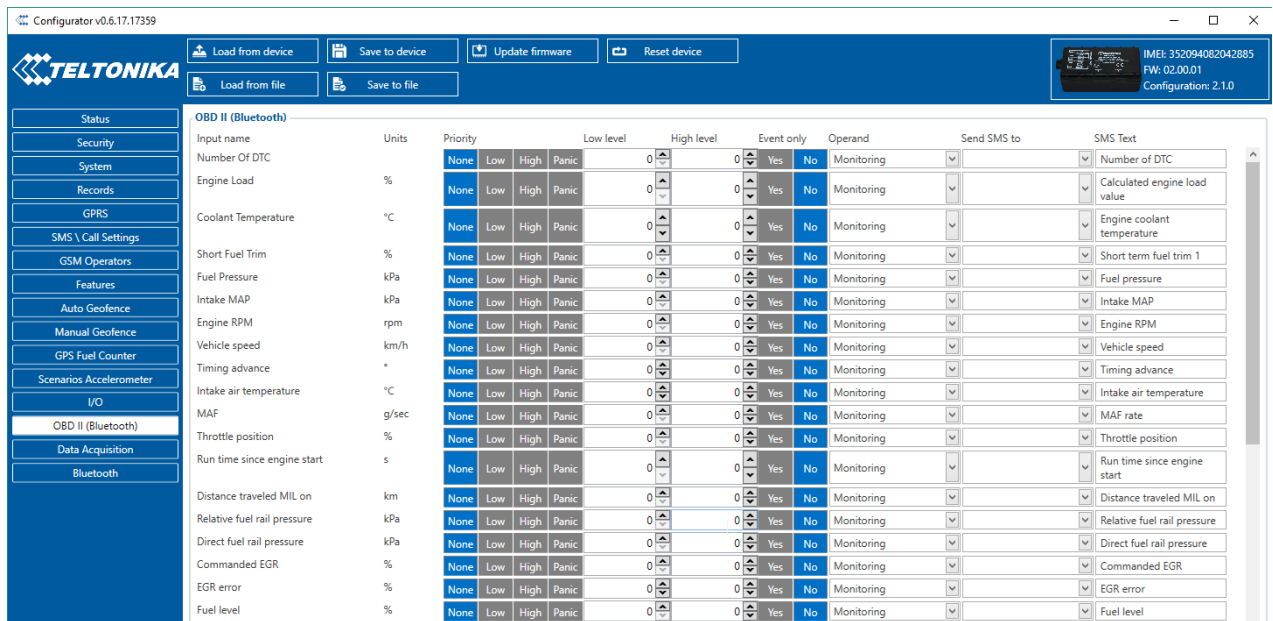

Figure 38 OBD II Bluetooth settings.
9. Go to “**OBD II (Bluetooth)**” in left menu and select priority and others parameters visible at **Figure 38**.